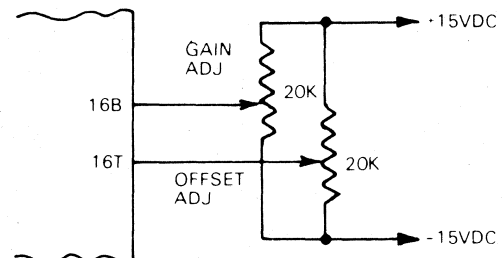

FIG. 1 EXTERNAL ADJUSTMENTS
- A. Offset and gain adjustments may be made either internally or externally. Self-contained trimming potentiometers are provided for the internal adjustments. For external adjustment, 20K trimming potentiometers must be used with pins 16B and 16T. Connect as shown in Figure 1.